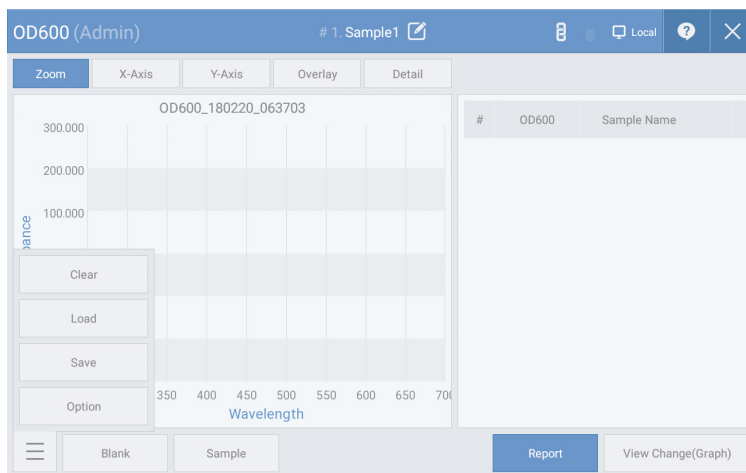

Fig. 3.6
1. Click the "Settings" button in [Fig. 3.6] to set the measurement environment.
2. Load the blank sample and click "Blank" shown in [Fig. 3.6] to measure the zero point.
4. Load the sample and click the "Sample" button shown in [Fig. 3.6] to begin measurement.